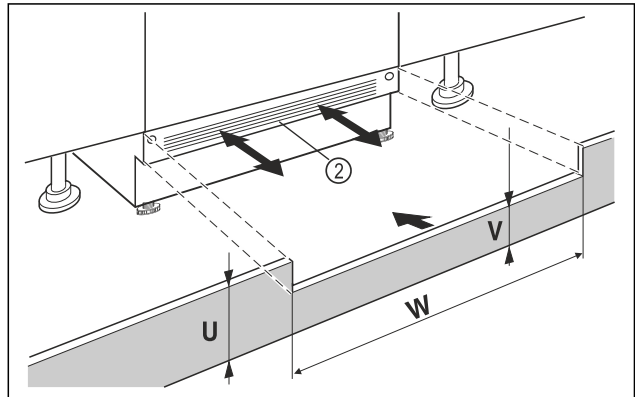

Fig. 12 Example illustration
- ▶ Put on the appliance base cover Fig. 12 (2) but do not fix it in place yet.
- ▶ If the base panel is visible Fig. 12 (2), pull it forwards so that the front edge of the ventilation grille and the unit base panel are level.
- ▶ If the base panel is concealed Fig. 12 (2), push it all the way back.
- ▶ Ensure that the ventilation slots are completely free: If necessary, cut the height of the unit base panel Fig. 12 (U) to size!
- ▶ Adjust the web height Fig. 12 (V) under the appliance base panel Fig. 12 (2) along the niche width Fig. 12 (W).